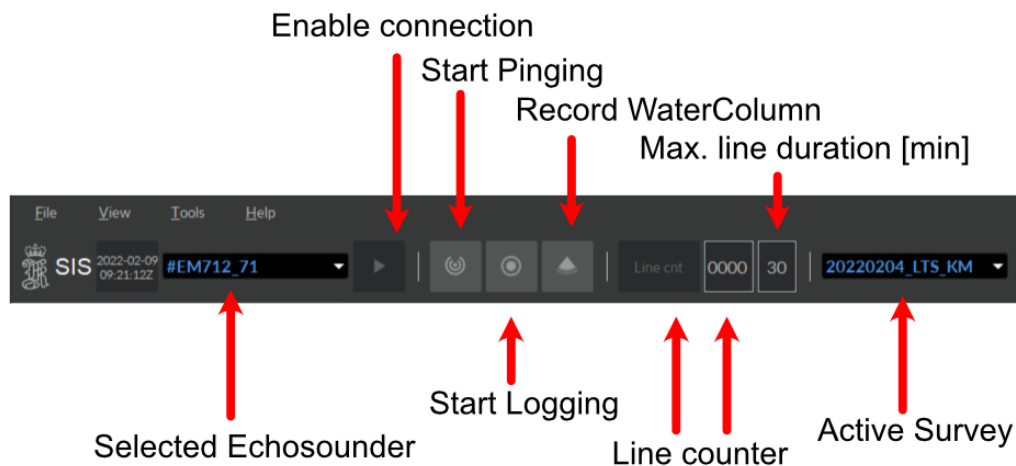

Figure 11: The main frame
Before starting pinging, the echo sounder must be turned on. Select the echo sounder from the **Echo sounder - not started** combo box (Figure 11). The **Logging** and **Pinging** buttons
Pinging must be started manually after the echo sounder is ready. Press the **Pinging** button on the toolbar. The button is red when **Off** and green when **On** (Figure 11).
Logging must be started manually after the echo sounder is ready. When the echo sounder has started logging, data is automatically saved to disk in *.kml file format (Figure 11).
For logging the water column data press the **WCL** button on the toolbar it will turn from grey to red if logging is enabled and will turn green during logging (Figure 11). This data will be written to *.wcd files in your selected folder, separately from the *.all files.
- Observe the three status lamps on the main toolbar which give status of hardware units (applies to multibeam echo sounders only) (Figure 11).